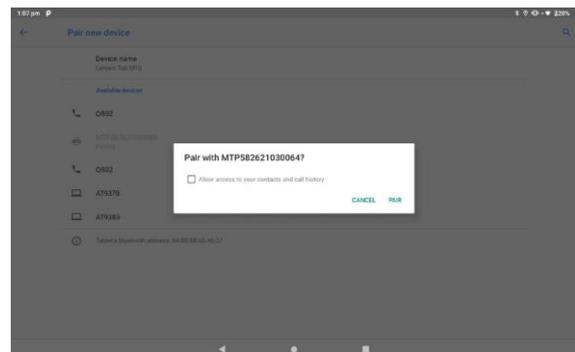

Figure 59
5. Press a device to pair with it and enter a code if required: check with the device manual for the specific code (Figure 59).